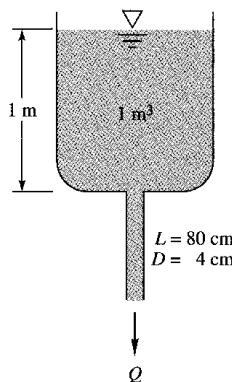

Fig. P6.63
**6.63** A tank contains  $1 \text{ m}^3$  of water at  $20^\circ\text{C}$  and has a drawn-capillary outlet tube at the bottom, as in Fig. P6.63. Find the outlet volume flux  $Q$  in  $\text{m}^3/\text{h}$  at this instant.
**Solution:** Recall that  $\rho = 998 \text{ kg/m}^3$ ,  $\mu = 0.001 \text{ kg/m}\cdot\text{s}$ , and  $\epsilon/d \approx 0.0000375$ . Let  $Z$  be the depth of water in the tank ( $Z = 1 \text{ m}$  in Fig. P6.63). When  $Z = 0$ , find the flow rate: